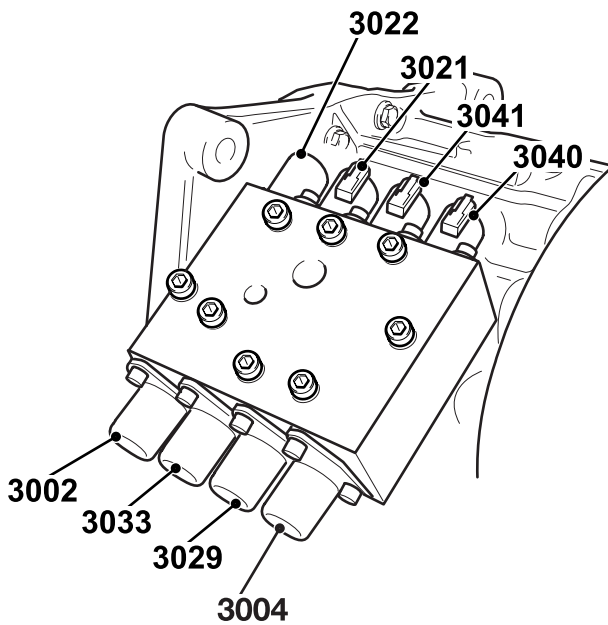

Fig 9.
- Make sure that the electrical connectors are phased correctly. The phasing varies between solenoids. ⇒ Fig 9. \(□ F10-17\)